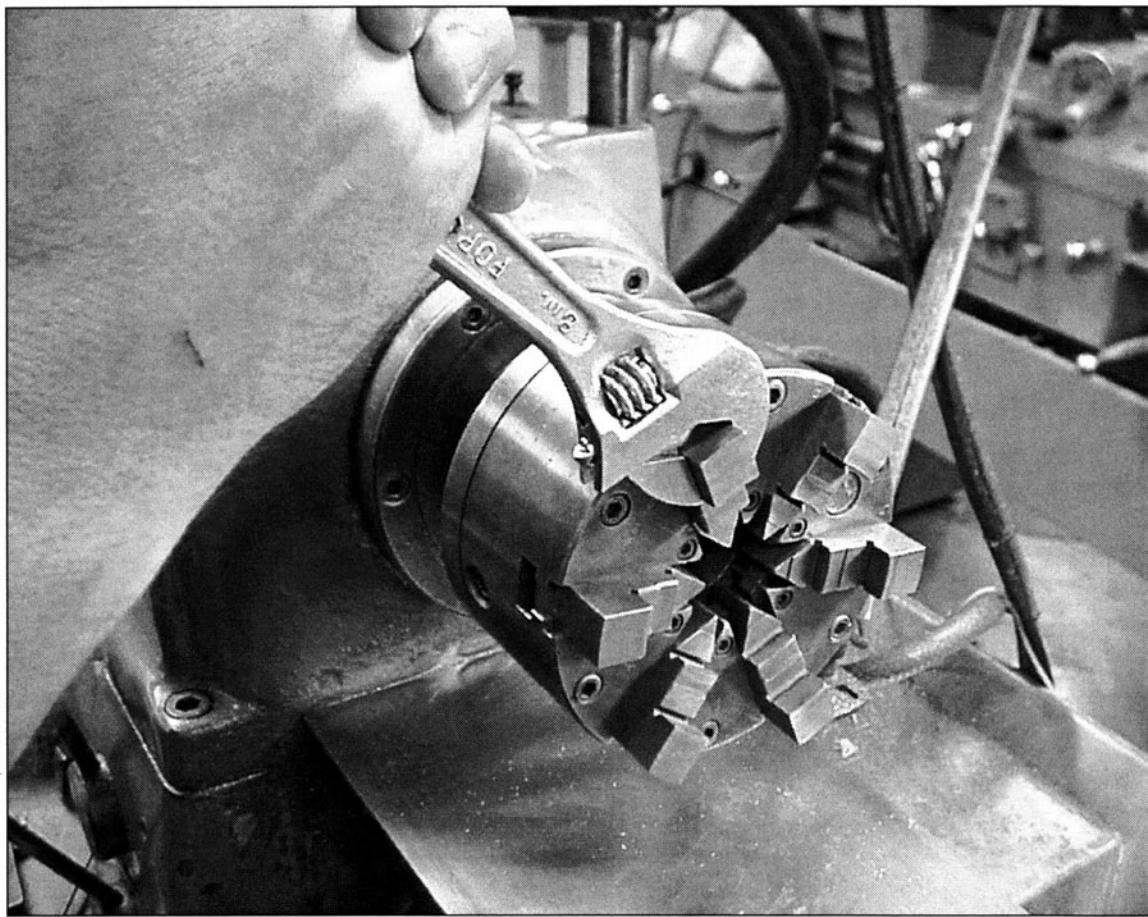

FIGURE 6-23 An adjustable wrench is used to loosen the chuck from the spindle of this Hardinge lathe.
33. *In a Hardinge® type lathe, use an adjustable wrench to torque the chuck on and off. (See Fig. 6-23)*